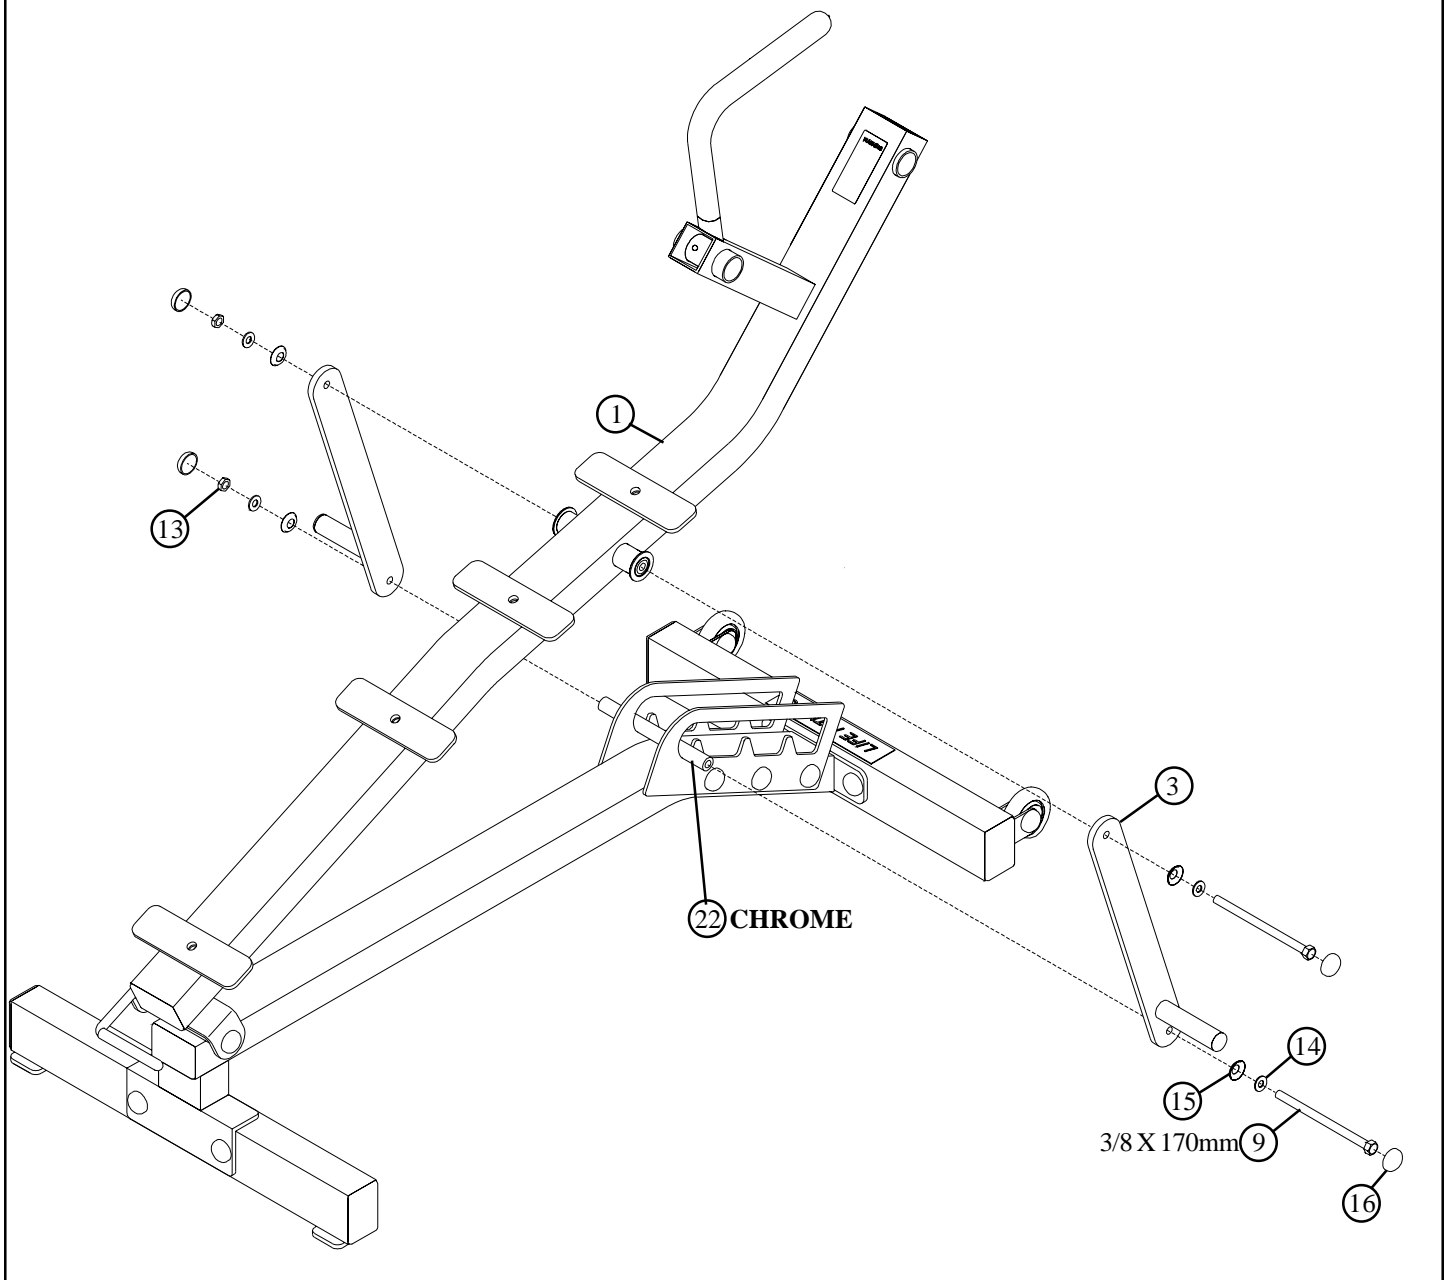

**FIGURE 2**
- **SECURELY** assemble the SEAT (1) to the FRAME (2) using two RH CAPS (16), one 3/8 X 164mm BOLT (12), two 3/8" SAE WASHERS (14), two 3/8" RH WASHERS (15) and one 3/8" LOW HEIGHT LOCK NUT (13) as shown in FIGURE 2.